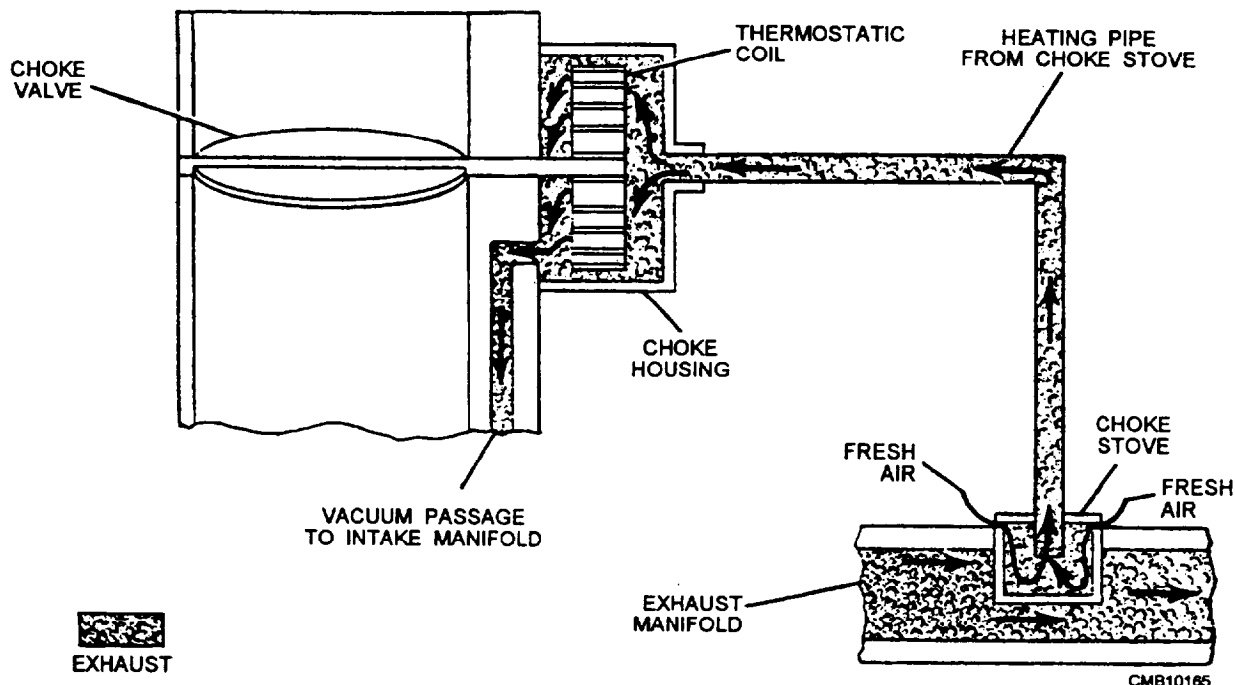

Figure 4-36.—Exhaust-manifold heat-tube choke.
- The **EXHAUST MANIFOLD** (fig. 4-36) uses heat from the exhaust manifold to heat the thermostatic spring. The exhaust heat is brought to the choke through the means of a heat tube. The heat tube passes through the exhaust manifold, so as it takes in fresh air via the choke stove, it picks up heat from the exhaust without sending any actual exhaust fumes to the choke mechanism.